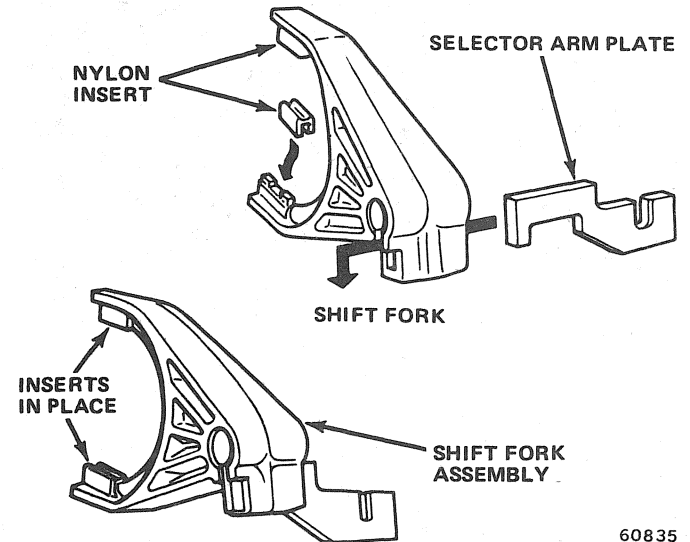

Fig. 2B-23 Assembling Shift Forks and Selector Arm Plates
(1) Install nylon inserts and selector arm plates in shift forks (fig. 2B-23).